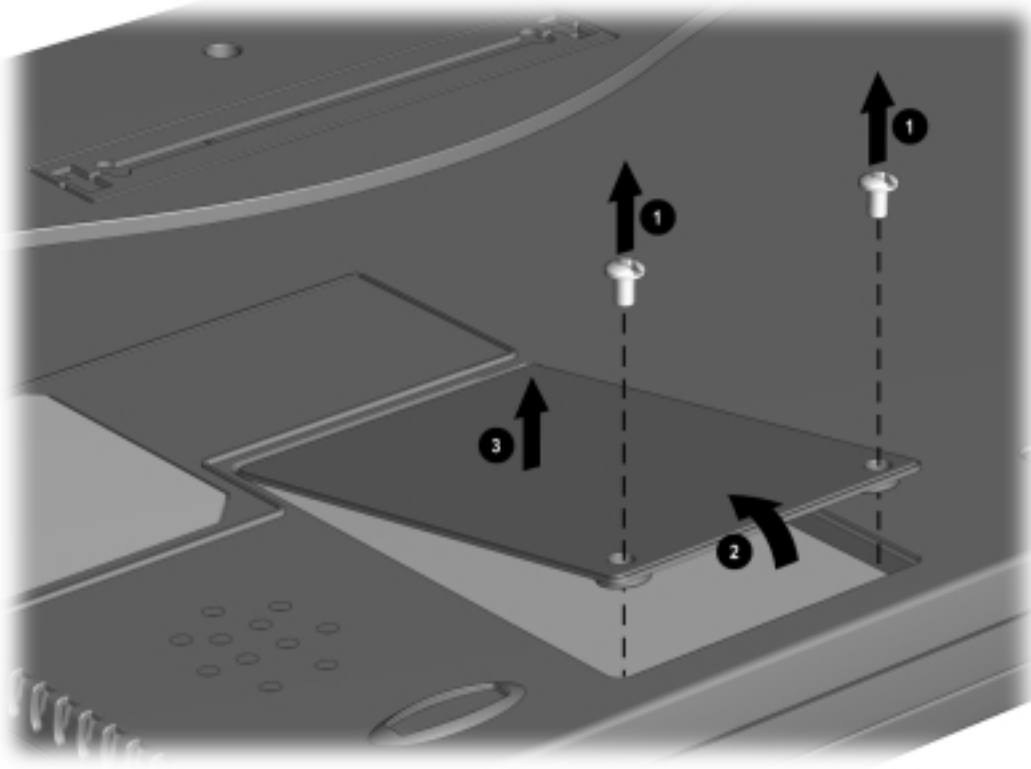

Figure 5-11. Removing the Modem or Modem/NIC Card Cover
4. Remove the two screws that secure the modem or modem/NIC card cover to the base assembly **1** (Figure 5-11).